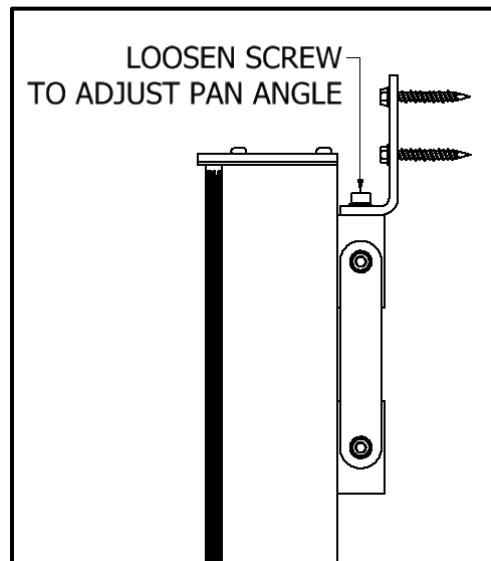

Figure 13. 90243A-803 and 90243A-804 Wall Mounting – Step 6
6. To aim the speaker left or right, loosen the top screw and pivot the unit to the desired position as shown in Figure 13. Once the speaker is in the appropriate position, retighten screw. Pan angle is adjustable within +/- 50°.